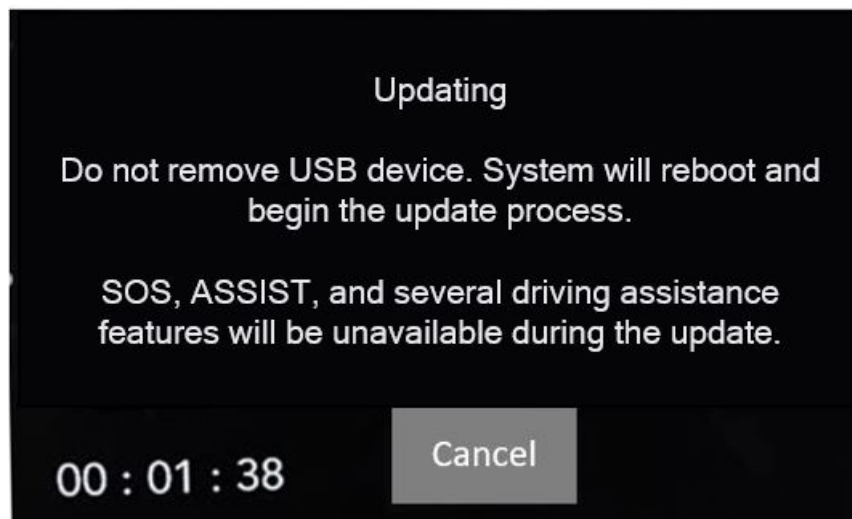

Fig. 8
NOTE: If the ignition is turned off before the two minutes has expired, the software update will be canceled. The ignition does not have to be turned off to perform this updated. (Fig. 8) .
14. When the radio starts updating, the screen in (Fig. 8) will be displayed.